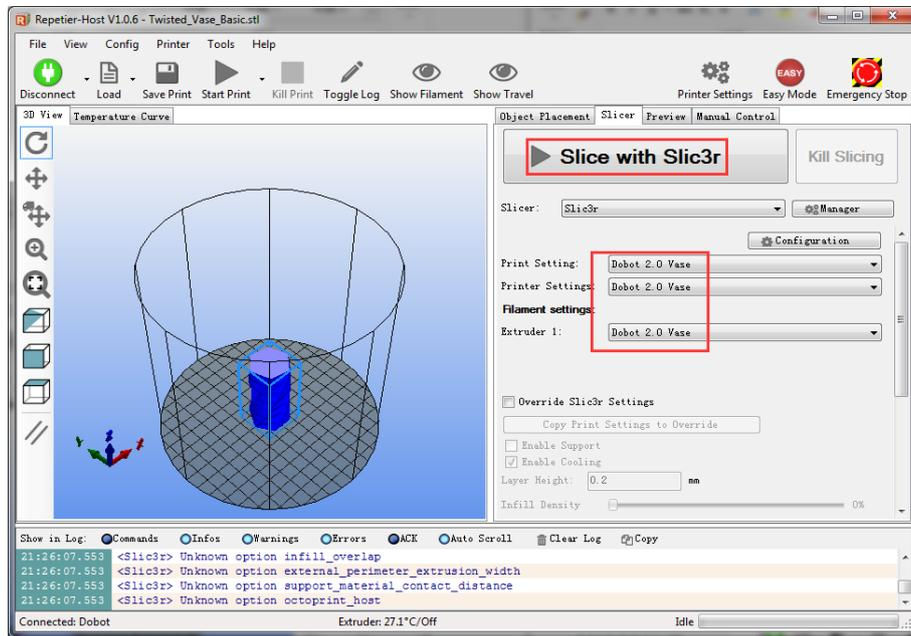

Figure 5.103 Start to slice
- Click Slici with Slic3r on the Slicer tab of the Repetier Host page, as shown in Figure 5.103.